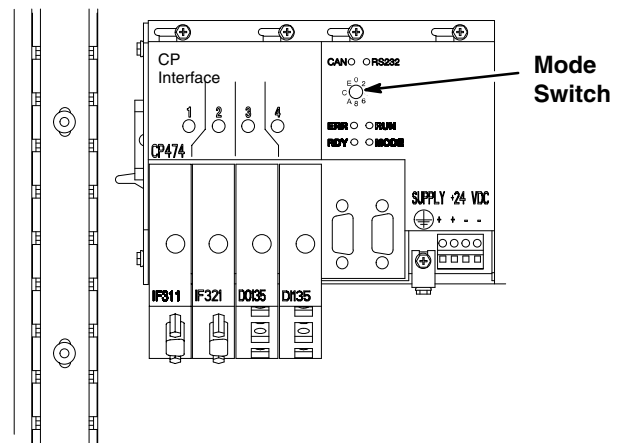

Fig. 13.31
4. Set the mode switch on the controller to A. See Fig. 13.31.